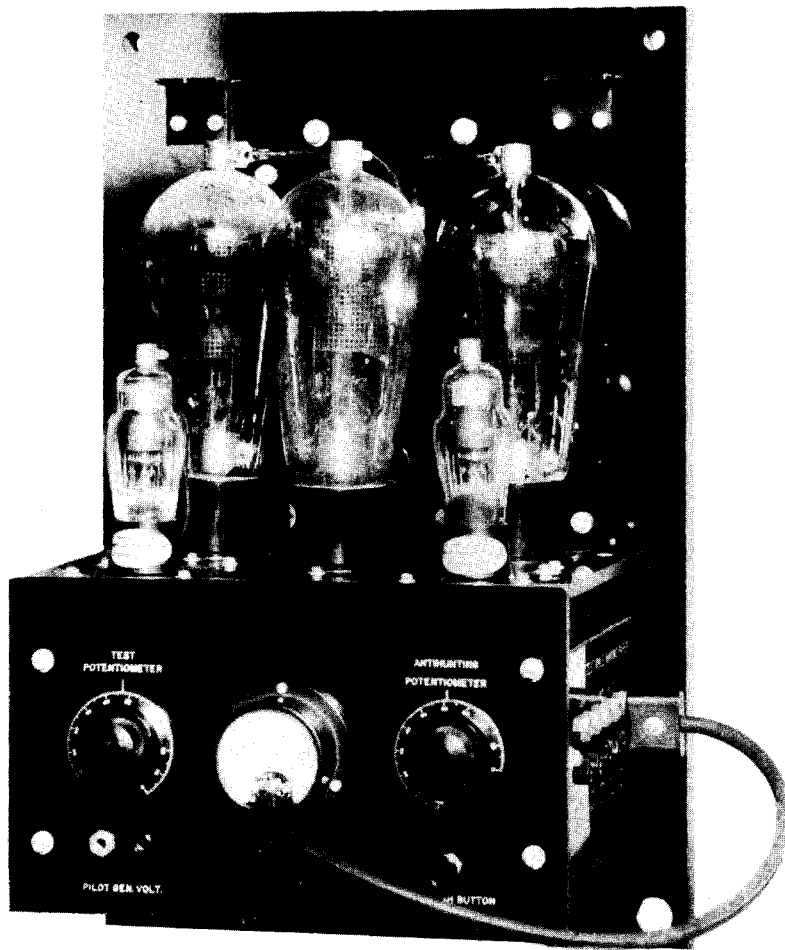
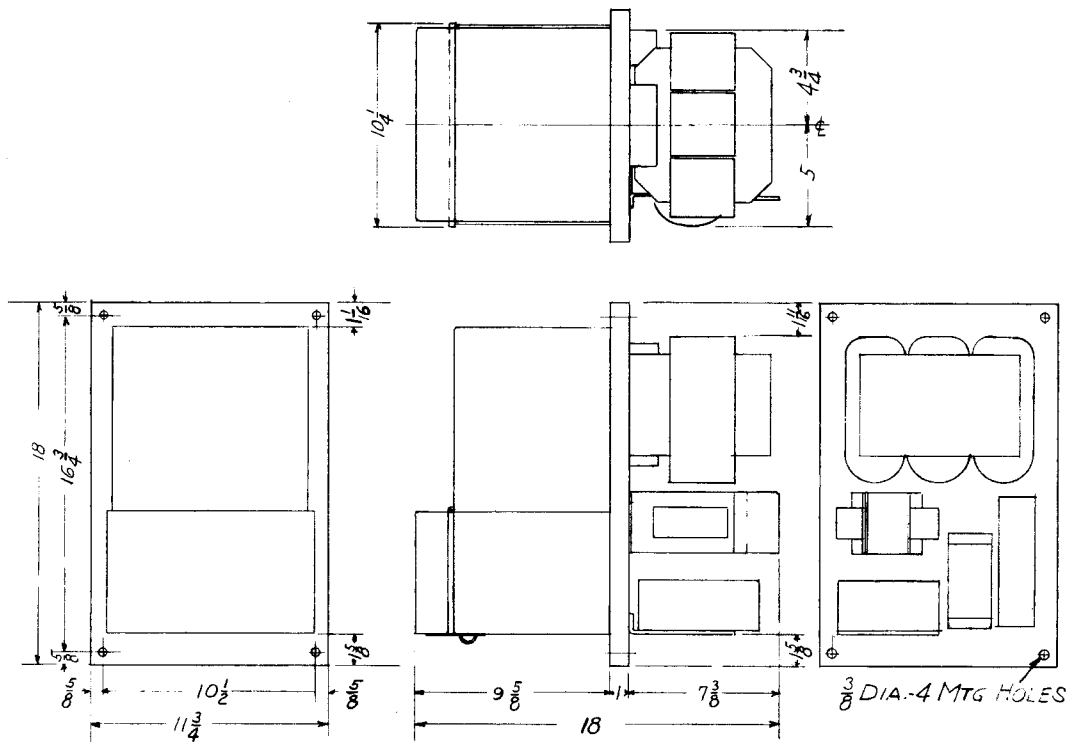
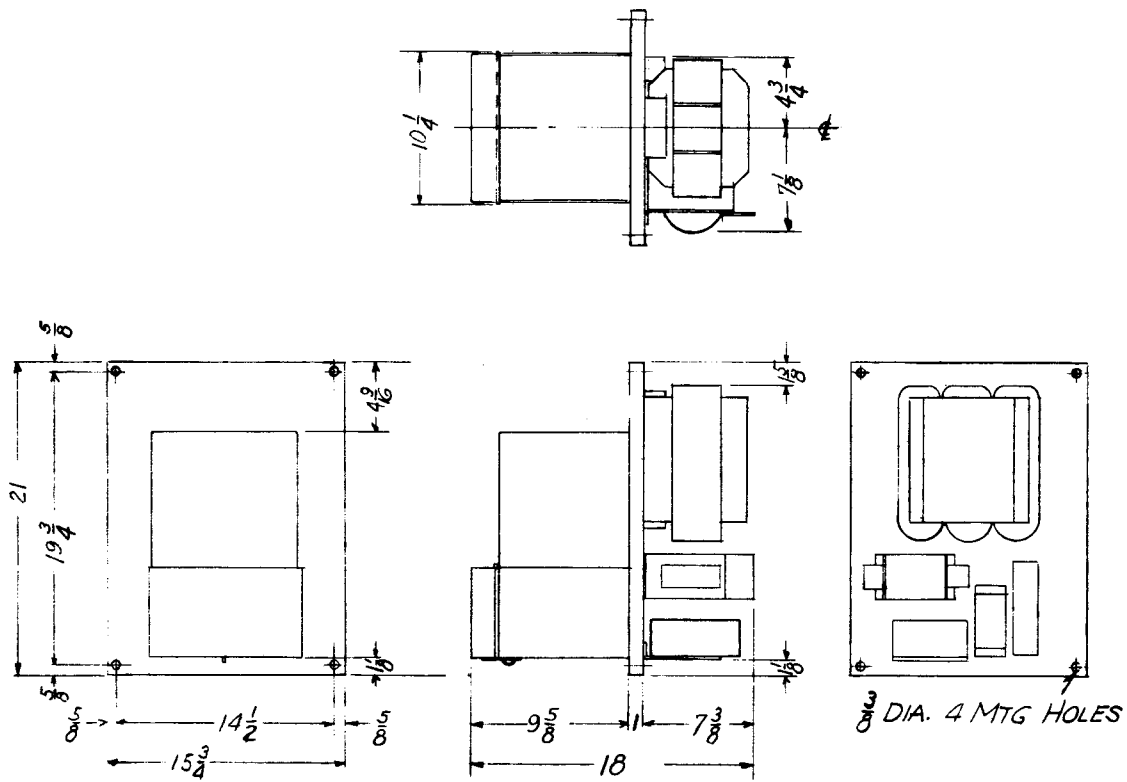

Fig. 1 - Type DT-5 Voltage Regulator - Front View
Fig. 8 - Outline Drawing for DT-5 Voltage Regulator
Fig. 9 - Outline Drawing for DT-5 Voltage Regulator
- (1) The Type DT-5 voltage regulator as shown in Figure 1 consists of an assembly of three Type KU-628 grid glow tubes, two Type RJ-571 amplifier tubes and various transformers, capacitors, resistors and a battery. The equipment is assembled on a Micarta panel, with a removable front cover. Outline dimensions for the 25- and 60-cycle units are given in Figure 9 and Figure 8.